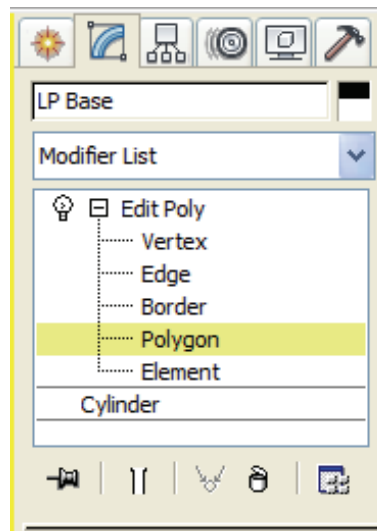

Figure 3–26
3. In the Modify panel () , select **Edit Poly** from the Modifier List. Click **+** (plus sign) for Edit Poly to display its sub-object modes. Select **Polygon** to activate sub-object mode at the Polygon level. The yellow highlighting in the Modifier Stack indicates that you are in the Polygon sub-object mode, as shown in Figure 3–26.